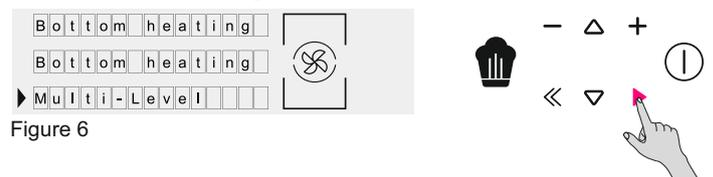

Figure 6
- Select the desired Cooking mode by pressing OK while arrow on the display at desired function. Press DOWN in order to see all available functions. (Figure 6)